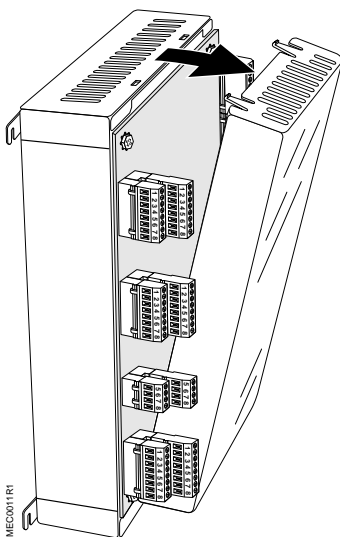

Figure 2. Removing the MEC Front Cover.
1. With an ESD wrist strap attached to your wrist and a good earth ground, remove the MEC front cover. See Figure 2.